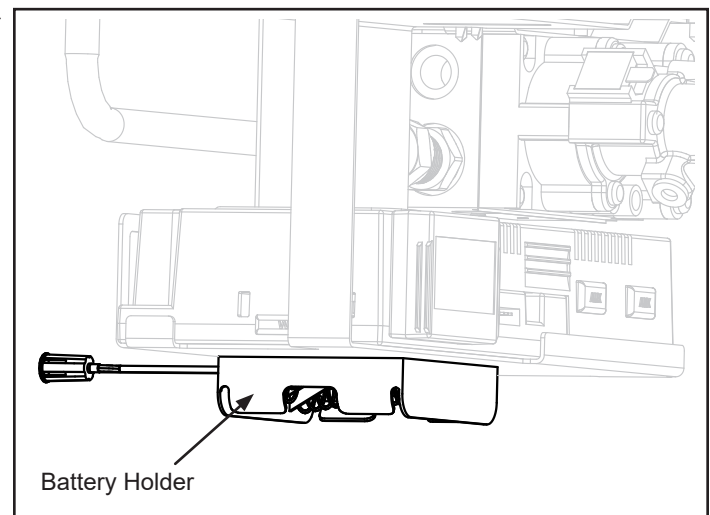

Figure 4.4 - Battery Holder
2. Locate the battery tray (located on the bottom of the ECM bracket) and insert four AA cell batteries, Figure 4.4. Battery polarity must be correct or module damage will occur. A complete wiring diagram is included in the Electrical section of the appliance Installation Manual. →